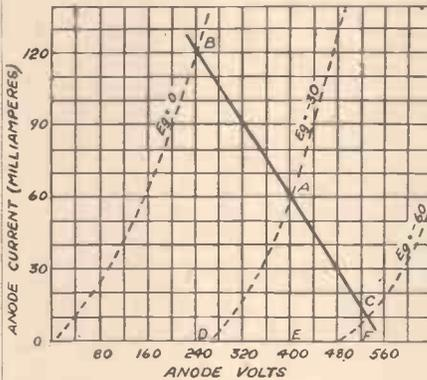
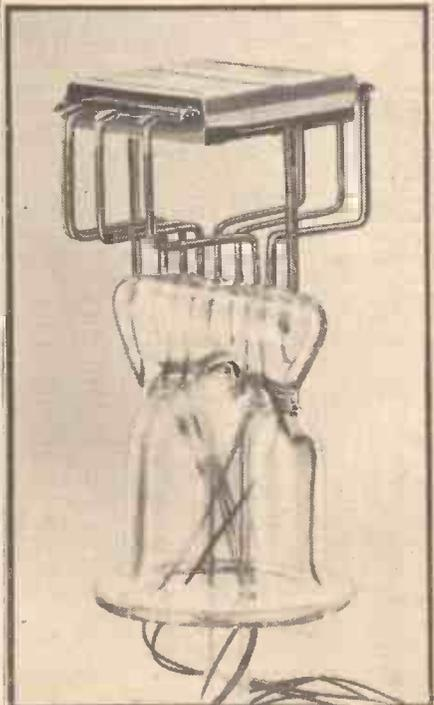
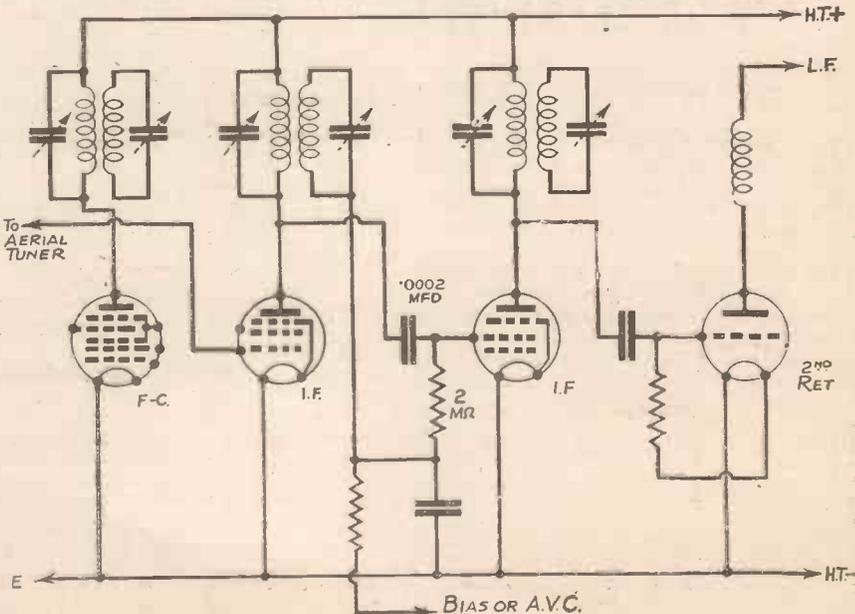

Fig. 1.—The complete curve referred to in the text, with all unnecessary curves omitted to make the diagram clear.
Fig. 2.—A modern valve, showing the method of electrode assembly.
Fig. 3.—A skeleton circuit showing the connections used in eliminating the frequency-changer when there are two I.F. valves.
IN Fig. 3 of last week's issue the line ABC was shown crossing the dissipation line, but in actual practice it is necessary to keep the load line below this value and the two should not cross. However, to plot the load line the following procedure is adopted. The point A in the figure in question, which is repeated this week in a simplified form at Fig. 1, is the point of normal working, namely the point denoting maximum H.T. volts, maximum G.B., and the normal anode current at these two figures. This position, of course, represents the actual condition of the valve when no signal is being received. Now to denote the maximum and minimum values we have to take into account the fact that in the anode circuit there is an inductive load, and the impedance of this load varies with the frequency. If the load were of infinite impedance the line ABC in the diagram would be a horizontal line, for the voltage would be reduced to zero with a sufficiently high grid input, and thus we must calculate our output with the correct anode load. Now the makers state this figure, or we may take it as twice the normal anode impedance for a triode valve and we can then calculate the position of minimum voltage by multiplying the load by the normal anode current and dividing by 1,000. Now where this voltage line is crossed by the line representing zero grid bias a dot must be made, and through this point and the point already made a line is drawn, continuing to the line representing double the normal bias. These three points are represented in the diagram respectively as A (normal working point), B (minimum voltage) and C (maximum voltage).
We can now drop a line from each of these points and they will represent what might be termed instantaneous values, and it will be seen from Fig. 1 that point B corresponds to an anode voltage of 240 volts (D), whilst point C corresponds to a voltage of 520 volts (F). Now the anode current at point B is 120 milliams., and this represents a maximum value at this point of 120 mA. At point C the anode current is only 10 mA and this represents a change of only 10 mA. We may state, therefore, that the R.M.S. value of the anode current swing is $\frac{120-10}{2\sqrt{2}}$. The A.C. (Ohm's Law) formula for power, as we saw last week, is $\text{current}^2 \times \text{resistance}$, and thus the figures above, for our example, may be set down and the A.C. power for this particular example represented as $\left(\frac{BD-CF}{2\sqrt{2}}\right)^2 \times 4,000$.
Fig. 2.—In the case of a mains-operated set the detector grid of the frequency-changer should be connected so as to receive the normal bias, as shown, when using the modified connections shown in Fig. 1.
Fig. 1.—This skeleton circuit shows how the frequency-changer of a typical superheterodyne can be cut out of circuit, so converting the set into a "straight" arrangement. Broken lines indicate original connections, and heavy lines the new connections.
In making the above suggestions it has been assumed that the receiver was a four-valve battery-operated instrument of the simplest type, embodying a pentagrid frequency-changer, followed by a single I.F. amplifier, a leaky-grid detector, and a pentode output valve. The general idea holds good, however, for most other types of set, but in the case of a mains receiver it is better, after changing the connection from the band-pass filter, to connect the grid of the first valve direct to the lower end of the tuning circuit, so that it receives its usual bias voltage. If this were not done the valve would pass more than its normal H.T. current, and if the valve were removed from its holder the H.T. and L.T. voltages applied to the other valves might become too high. The method of "earthing" the grid is shown in Fig. 2, where it will be seen that the grid must be connected to the A.V.C. line (where provided), to the variable-bias supply, or directly to the earth line.
When there are two I.F. valves the anode circuits of both must be modified, whilst a .0002-mfd. grid condenser and a 2-megohm leak should be included in the grid circuit of the first, as shown in Fig. 3. The objects of these components are to prevent the grid from being biased positively by the H.T. voltage, and to ensure that the bias voltage remains as before.
detector. Fig. 2 shows a most suitable arrangement, and consists of an S.G. detector, and R.C.C. L.F. stage. Aperiodic aerial coupling and parallel grid leak and condenser are again specified, reaction being
Reverting to Fig. 2, experimenters are strongly advised to give this combination a thorough test over a long period under various reception conditions. When using
Fig. 2.—A circuit incorporating S.G. Detector, and R.C.C. L.F. stage. C1=.0001 mfd., C2=.0001 mfd. to .00016 mfd., C3=.0001 mfd. to .00016 mfd., C4=.01 mfd., GL=3 megohms, R2=100,000 ohms, and R3=1/2 megohm.
Fig. 3.—Circuit for a straight three-valve short-wave receiver with two stages of L.F. transformer coupling. C1=.0001 mfd., C2=2 mfd., C3=1 mfd., C4=.00016 mfd., C5=.00016 mfd., C6=Band Spread (capacity will depend upon coils used), R2=20,000 ohms, GL=2-3-5 megohms, R3=400 ohms potentiometer, SW=on-off switch.
Fig. 3 shows the theoretical circuit diagram of what may be called a de-luxe arrangement of the popular 0-v-2 receiver. Band-spread tuning C6, potentiometer control R3, aperiodic aerial coupling, L.F. choke output, efficient decoupling arrangements, and two transformer-coupled low-frequency stages, are the salient features.